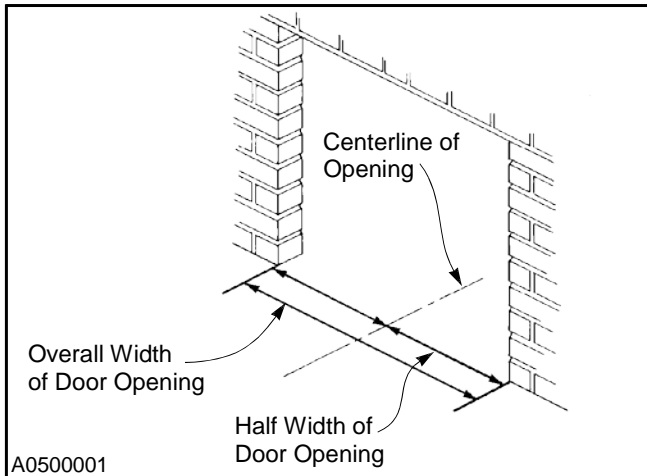

Figure 8
1. Measure the width of the door opening. Then divide the measurement in half to locate the centerline. Mark the centerline along the floor. (See Figure 8.)